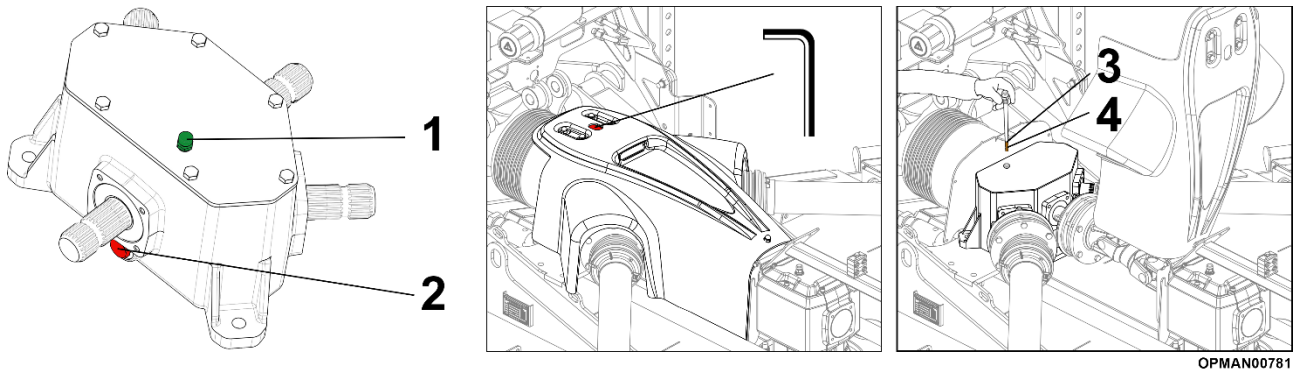

Figure 5.2 – Army Master Splitter Gearbox
The quantity of oil to use in each of the respective gearboxes is determined by the filling marks on the dipstick and the guide quantity to the amount of oil required for the particular gearbox is given approximately in the table below. There are grooves marked in the dipstick with Figures 5.2 (3) and 5.3 (3) showing the upper level and Figures 5.2 (4) and 5.3 (4) showing the lower level.
To drain the oil, each of the gearboxes is fitted with a **drain plug**. With reference to Figures 5.2 (2) and 5.3 (2), the locations of these drain plugs can vary. If there are facilities to vacuum draw the oil out of the respective gearbox, the oil can be changed through the fill hole/dipstick location instead which is considerably easier.
The positioning of the dipstick can vary between gearboxes to check the oil level, due to their engineering restrictions; see Figures 5.2 (1) and 5.3 (1). However, they should always be at the top.
The gearbox should not require additional lubricant unless the box is cracked or a seal is leaking. It is recommended that the oil level is **checked every day before operation** and additional oil added if it's required to bring it up to the upper level mark, see Figures 5.2 (3) and 5.3 (3), **before proceeding to use the machine.** At all times the oil level should be above the lower fill mark; see Figures 5.2 (4) and 5.3 (4) as otherwise permanent damage could be caused to the gearbox. The splitter gearbox guard has a cut-out in order to check the oil level without having to open the guard.
Army Master splitter box gearboxes have a guard to protect the casing. In order to check the oil level in this gearbox requires the removal of the centre socket cap bolt to hinge the guard open to access the gearbox dipstick; see Figure 5.2.